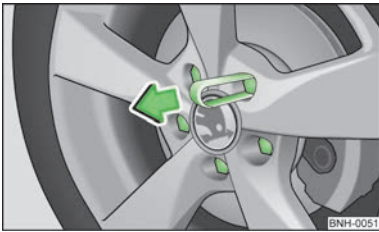

Fig. 108
- Push the plastic clip sufficiently far onto the cap until the inner catches of the clip are positioned at the collar of the cap and detach the cap » Fig. 108.